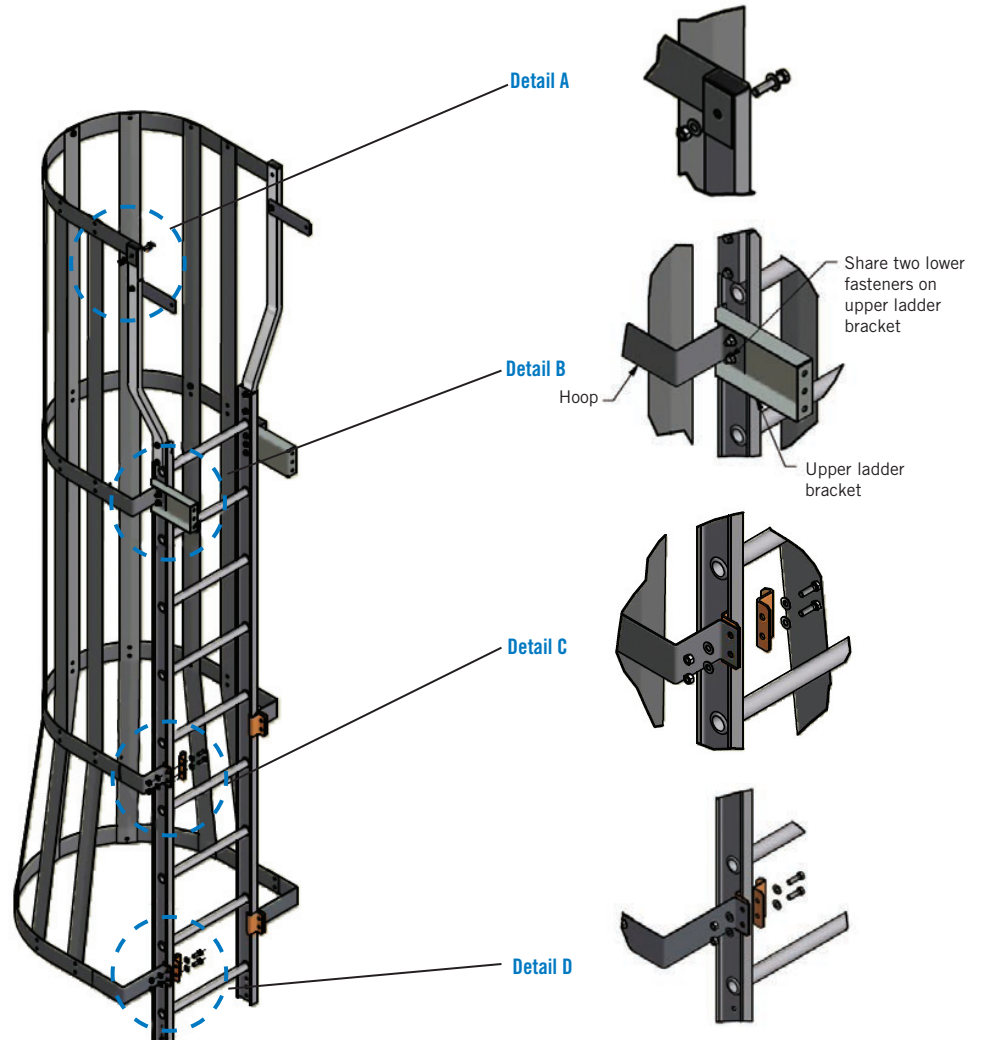

Figure 45. Safety Cage
2. Bolt the safety cage to the ladder using flatwashers and locknuts. Orient all fasteners with bolt heads inside safety cage. See **Figure 45, Detail A through D** and refer to **Table 4** for the quantity of bolting locations for different safety cage heights.